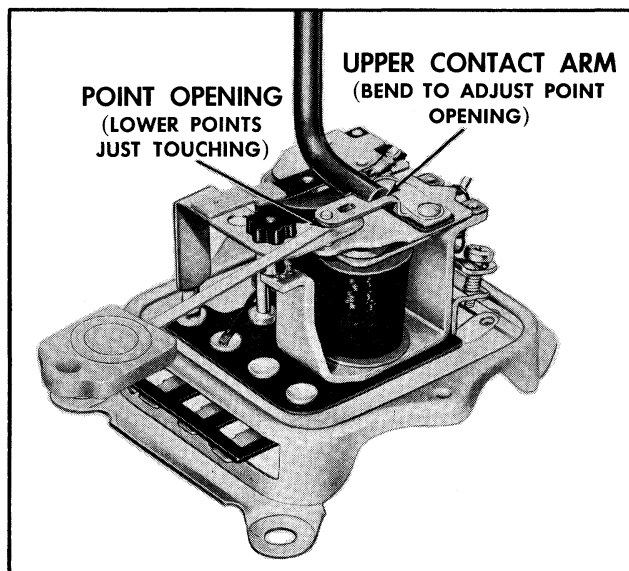

Fig. 11-34 Checking Point Opening
1. Point Opening: With the lower contacts touching, measure the point opening between the upper contacts as shown in Fig. 11-34. Adjust by bending the upper contact arm (Fig. 11-34), being careful not to bend the hinge (Adjust to .005").